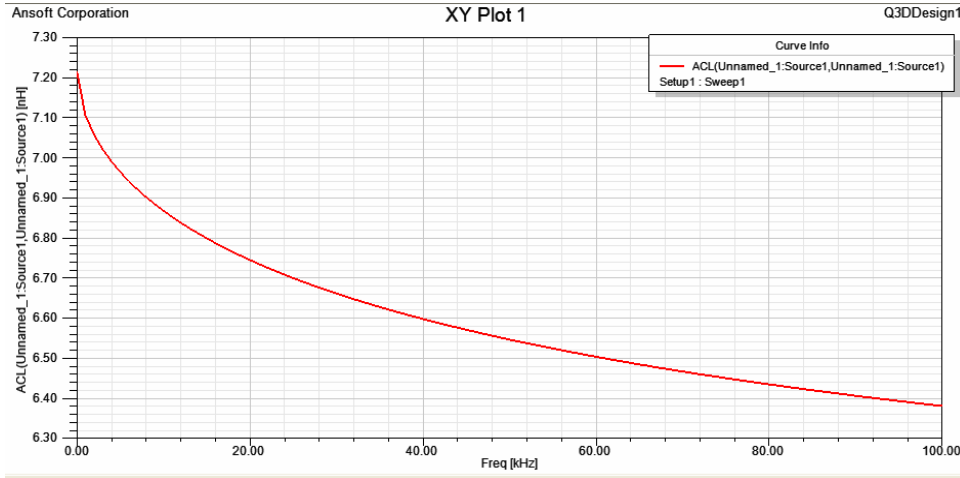
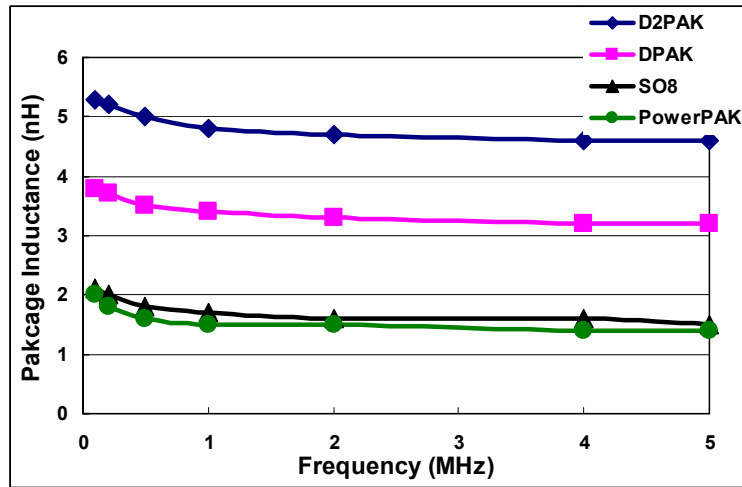

Figure 20 — TO220-3 Package Inductance vs. Switching Frequency Simulate by Ansoft
Figure 21 — Surface Mount Packages Inductance vs. Frequency
For LS, figure 20 shows the typical LS value of a traditional TO220-3 package MOSFET simulated by Ansoft. For some SMD packages, such like SO8 and TO252, the LS is a bit smaller, which is in figure 21. The trace on the PCB layout will also bring in some leakage inductance, which is ~1nH/mm.
Derived from (17) and (18), the secondary CCM turn-off  $di/dt$  for this case is around  $60A/\mu s \sim 150A/\mu s$  due to the different input. With a TO220 package SR FET ( $\sim 6.5nH$  package inductance at  $60kHz$  from figure 20), the voltage drop on package inductance  $V_{LK}$  will be  $400mV \sim 900mV$  according to (16). This voltage drop is much larger compared with the voltage drop on  $r_{ds(ON)}$  and dominate the  $V_{DS}$  in (15) trigger  $-30mV$  turn-off threshold of the IC affirmatively.